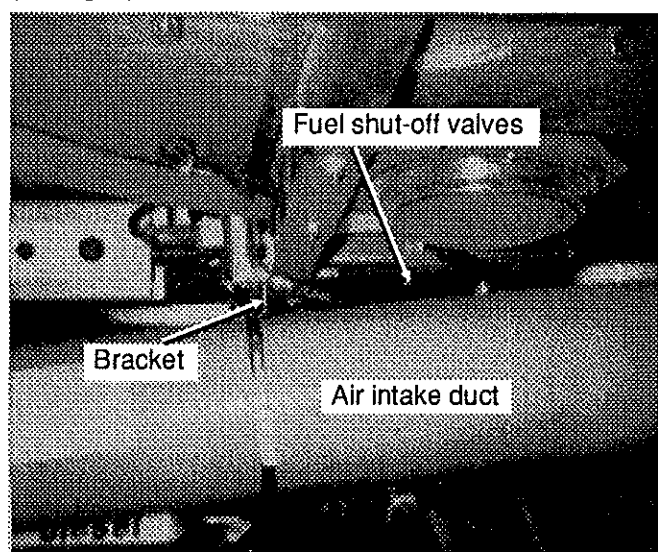

FIG. 6
18. Close the two (2) fuel shut-off valves, then disconnect hoses from valves (see fig. 6).
19. Remove the fasteners securing the air intake duct bracket to the ceiling (see fig. 6).